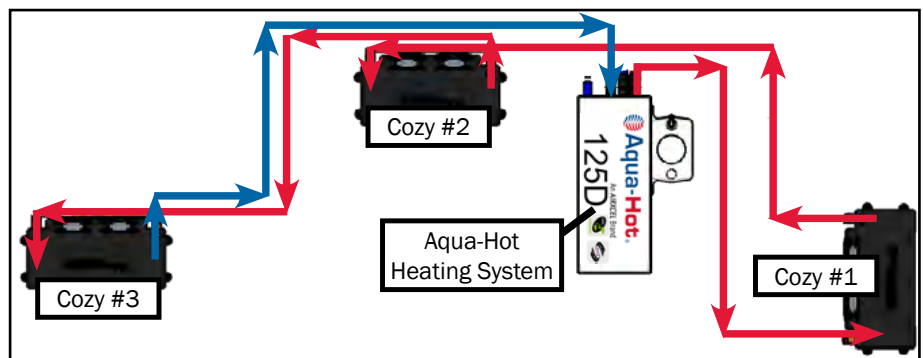

Figure 78
1. Layout the plumbing lines for all heat exchangers (see the example in Figure 78).